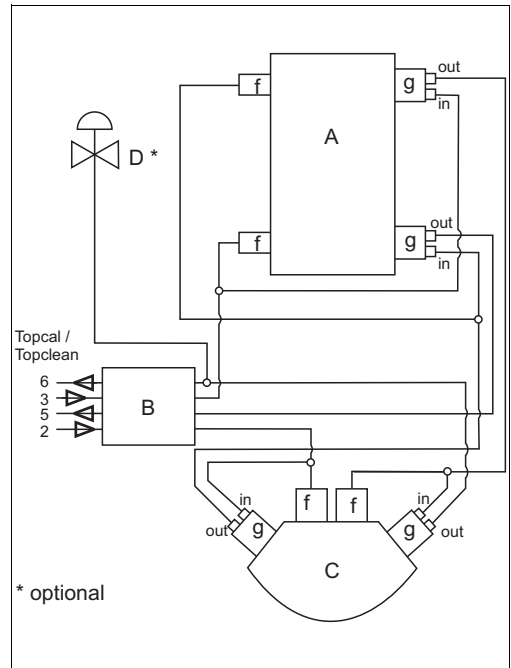
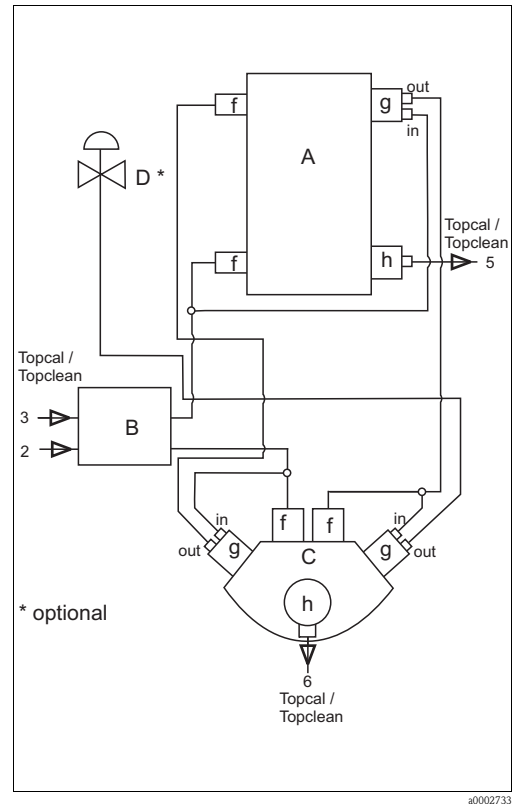

Fig. 14: Hosing
Fig. 16: Hosing
3. Cut the following compressed air hose (see Fig. 14, Fig. 16):